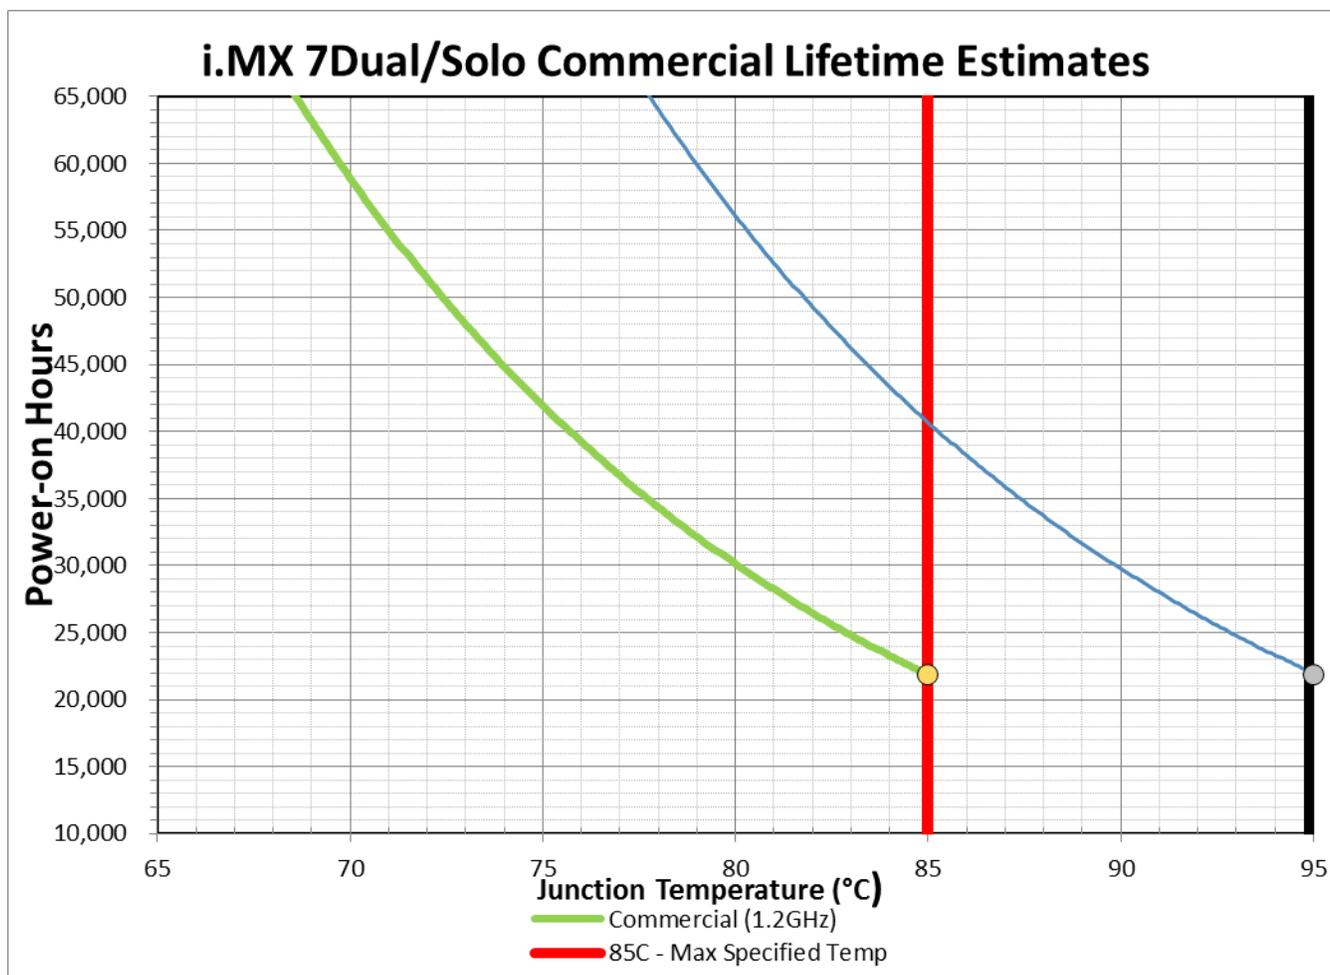

Figure 1. Consumer qualification lifetime estimates
*Figure 1* establishes guidelines for estimating PoH as a function of the junction temperature. PoH can be read directly from the chart below to determine the necessary trade-offs to be made to CPU.